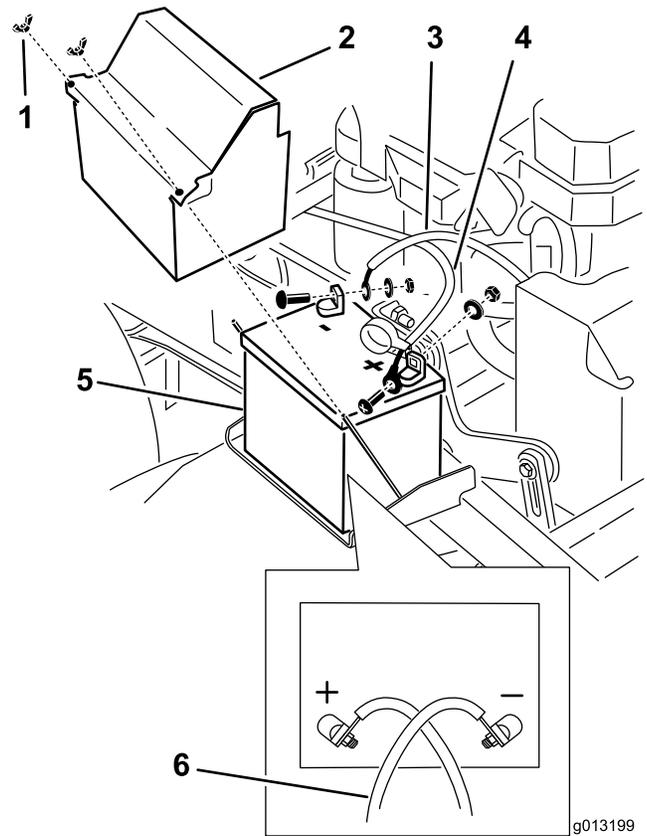

Figure 52
3. Disconnect the negative battery cable from the negative (-) battery terminal (Figure 52).
5. Remove the positive (red) battery cable (Figure 52).
6. Remove the battery hold down plate (Figure 52), and remove the battery.
1. Place the battery onto the machine (Figure 52).
3. Install the positive (red) battery cable to positive (+) battery terminal with a nut, a washer, and a bolt (Figure 52).
5. Install the negative battery cable and ground wire to the negative (-) battery terminal with a nut, a washer, and a bolt (Figure 52).
Note: The battery cables will crossover each other when they are correctly installed (Figure 52).